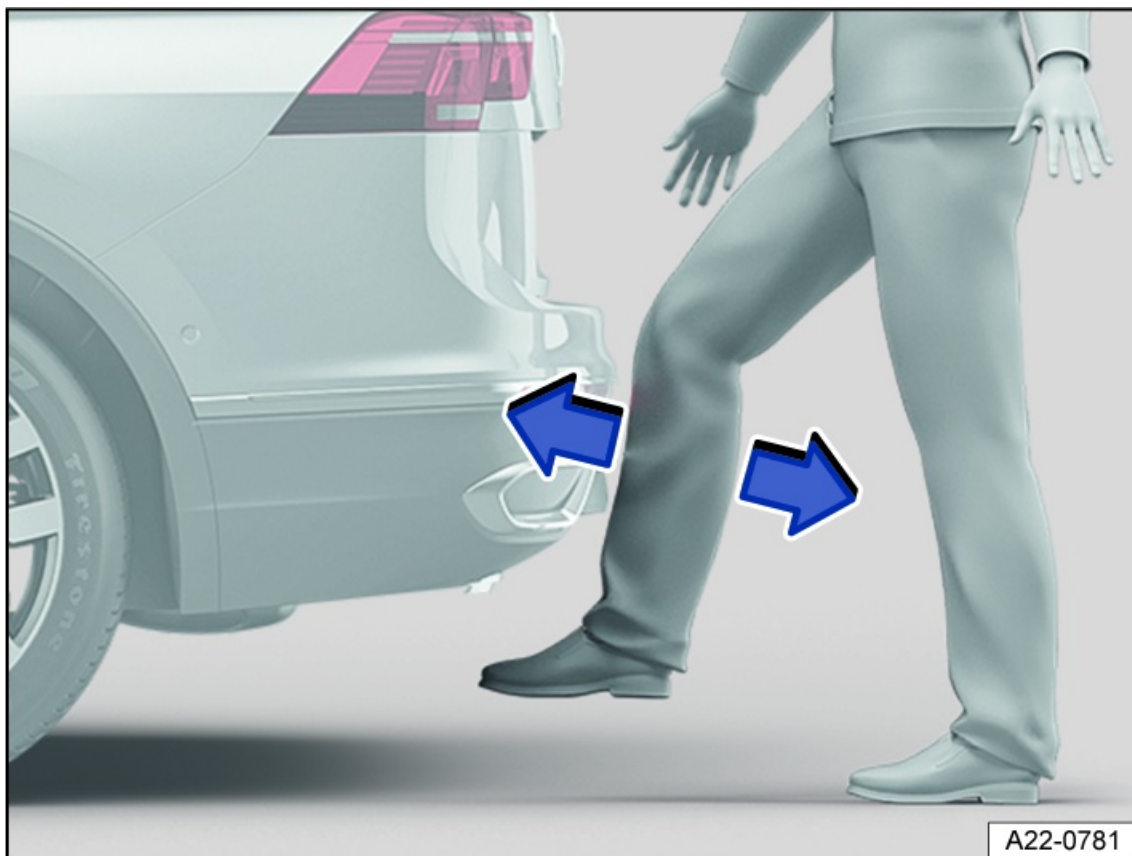

Fig. 68 General example of the sensor-controlled luggage compartment opener (Easy Open).
2. Quickly swing the lower part of your leg close to the bumper *fig. 68*.